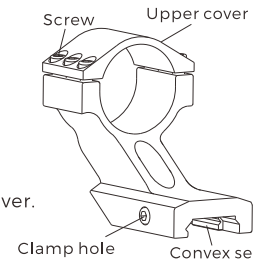

Fig 3 Mount bracket
1. The Mount bracket (Fig 3) is for connecting weapon with the sight.
2) Firstly insert the allen wrench into the clamp screw hole, then rotate to loosen the convex set (as shown in Fig3), slid the sight into the weapon rail to a right position, and finally fasten the clamp screw.